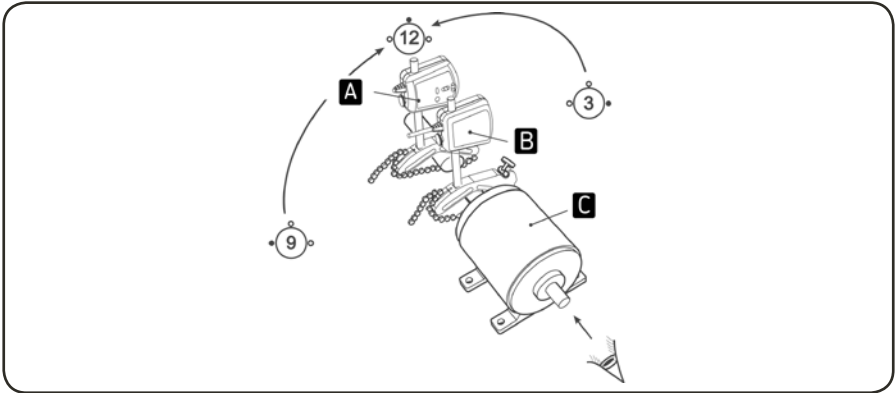

Fig. 4. The analogy of a clock
- a) Put the two measuring units in the 12 o'clock position with the help of the spirit levels (fig. 4 & fig.7).